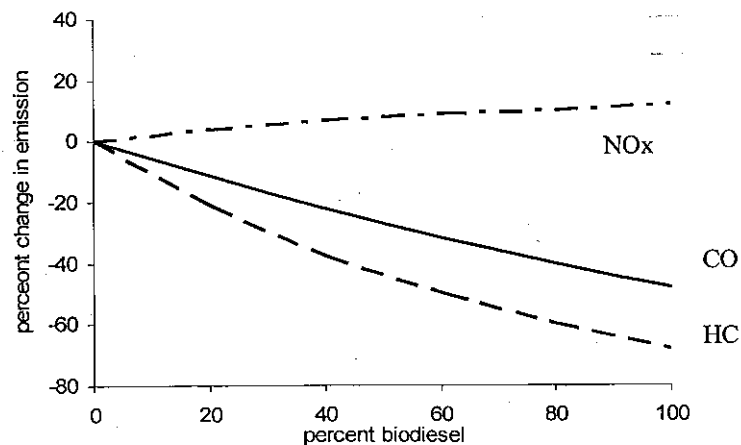

Fig.Q3
- b) "Biodiesel can be used as a fuel additive to reduce Particulate matter." Substantiate the above statement referring to the figure Q3.